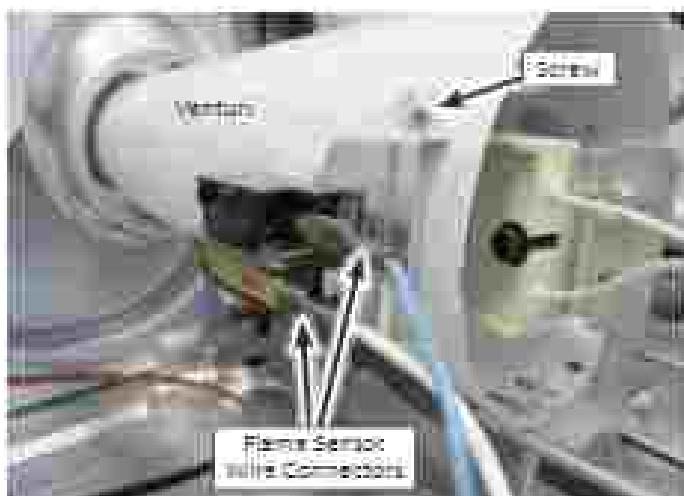

Figure 4 - Removing Flame Sensor
6. To remove the Flame Sensor (see Figure 4):
a) Disconnect the two (2) wire connectors from the flame sensor terminals.